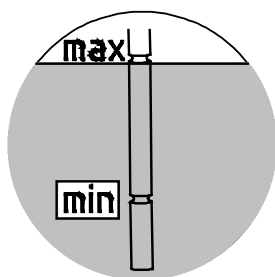

Figure 26: Checking the oil level with a dipstick
4. **Gear units with oil tank:** Der The oil level must be checked with the aid of the cap screw with dipstick (G1¼ thread) in the oil tank. The oil level must be between the top and bottom marking when the dipstick is fully screwed in (see Figure 26). Top up the oil level with the relevant type of oil as necessary. These gearboxes may only be operated in the mounting position stated in Section 7.1 "Versions and maintenance".